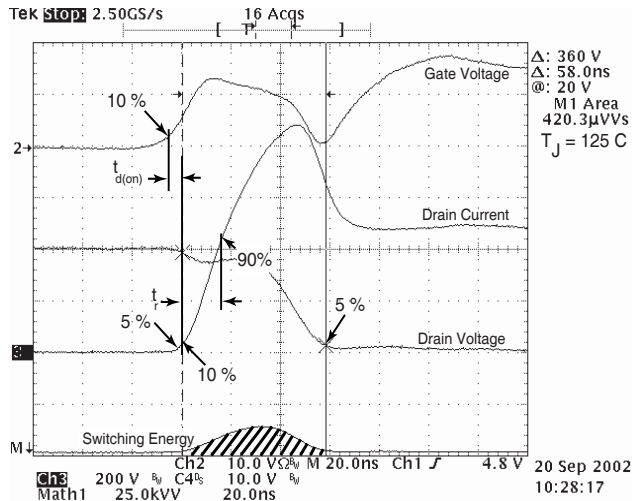

Figure 18, Turn-on Switching Waveforms and Definitions
① Repetitive Rating: Pulse width limited by maximum junction temperature
② Pulse Test: Pulse width < 380 μs , Duty Cycle < 2%
③ See MIL-STD-750 Method 3471
④ Starting $T_j = +25^\circ C$, $L = 4.51mH$, $R_G = 25\Omega$, Peak $I_L = 24A$
⑤ dv/dt numbers reflect the limitations of the test circuit rather than the device itself. $I_S \leq -I_{D24A}$ $di/dt \leq 700A/\mu s$ $V_R \leq V_{DSS}$ $T_j \leq 150^\circ C$
⑥ E_{on} includes diode reverse recovery. See figures 18, 20.